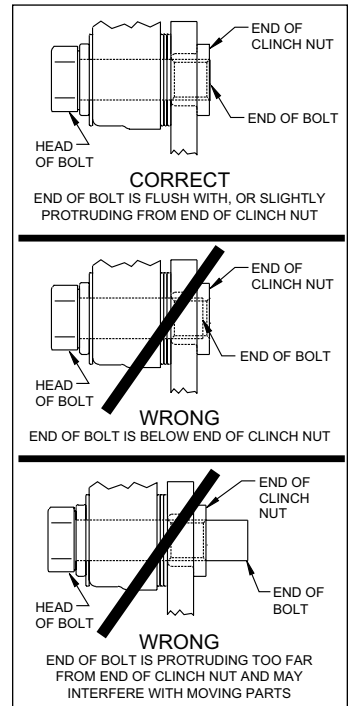

Figure 7. Clinch Nut Engagement Diagram
CAUTION: All mounting bolts must fully engage clinch nuts. Be sure to check that all bolts are either flush or protruding through flanged side of clinch nut after shimming, Figure 7.
the mounting bolts and view the rotor (4) through the top opening of the caliper. The rotor should be centered in the caliper, Photo 6. If not, adjust by adding or subtracting shims between the bracket and the caliper. Always use the same amount of shims on each of the two mounting bolts. **NOTE:** The end of each bolt must be flush with or slightly protruding from the head of the clinch nut, as shown in Figure 7. If necessary place spare shims between washer (6) and caliper mounting ear to achieve the proper clinch nut engagement. Once the caliper alignment and clinch nut engagement are correct, remove the bolts one at a time, apply red *Loctite*® 271 to bolt threads, and torque to 40 ft-lb.